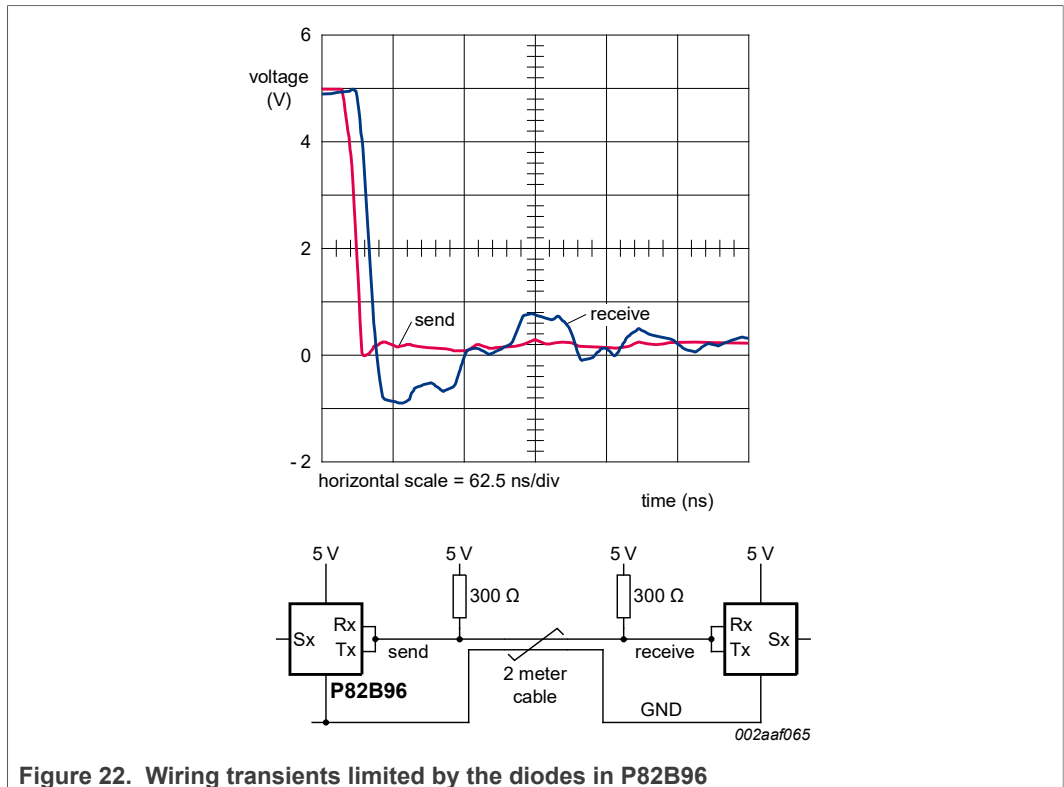

Figure 22. Wiring transients limited by the diodes in P82B96
**Answer:** Because the cable joining the two P82B96s is a ‘transmission line’ that will have a characteristic impedance around 100 Ω and it will be terminated by pull-up resistors that are larger than that characteristic impedance there will always be negative undershoot generated. The duration of the undershoot is a function of the cable length and the input impedance of the connected IC. As shown in Figure 22, the transient undershoot will be limited, by the diodes inside P82B96, to around -0.8 V and that will not cause problems for P82B96. Those transients will **not** be passed inside the IC to the Sx/Sy side of the IC.